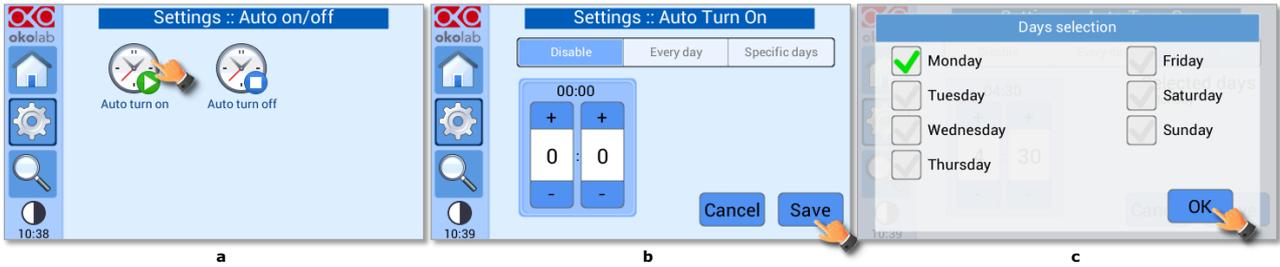

Figure 74. Auto Turn on menu (a - b - c).
Press on *Auto turn on* icon to enter in *Auto Turn on* menu (see Figure 74 a). Set the switching on time, the first number is for setting hour (from 0 to 23), the second number is for minutes. If you select:
- *Specific days*: H401-T-CONTROLLER will turn on automatically at set time on selected days- Flag the desired days and press *OK* (see Figure 74 c).